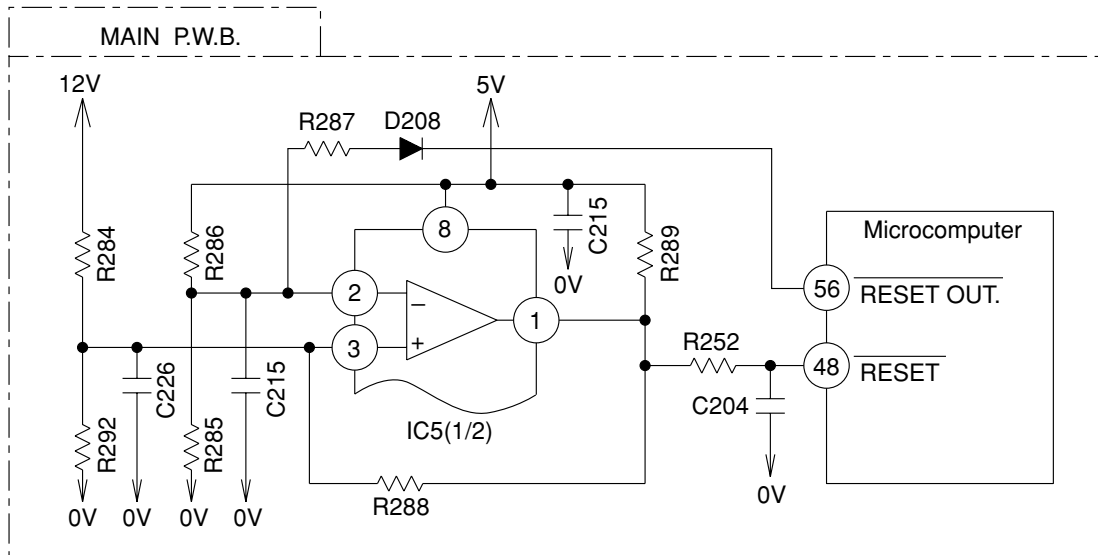
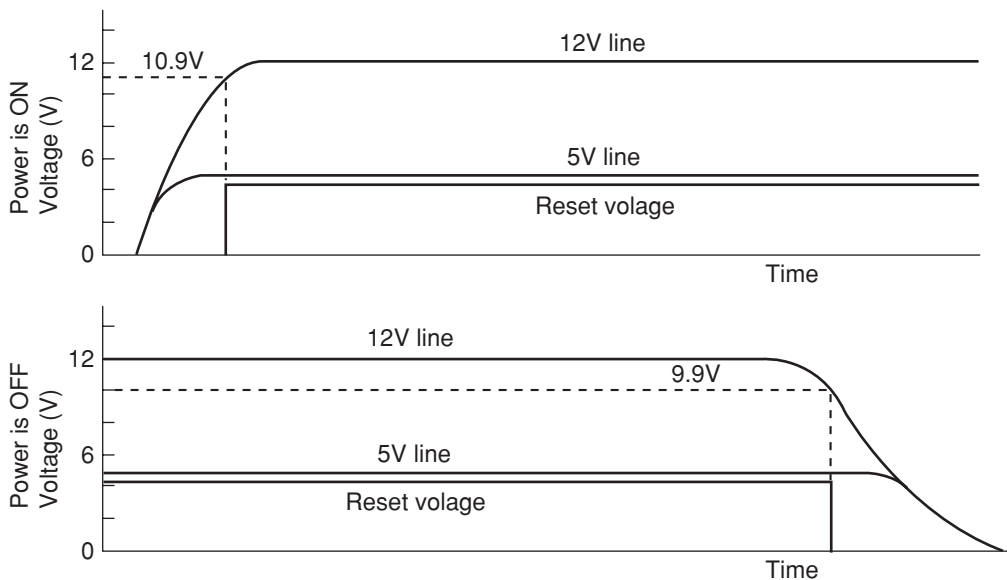

Fig. 6-7
Fig. 6-8
The reset circuit initializes the microcomputer program when Power is "ON" from "OFF". Low voltage at pin ④⑧ resets the microcomputer, and HI activates the microcomputer. Fig. 6-7 shows the reset circuit and Fig. 6-8 shows waveform at each point when power is turned on and off.